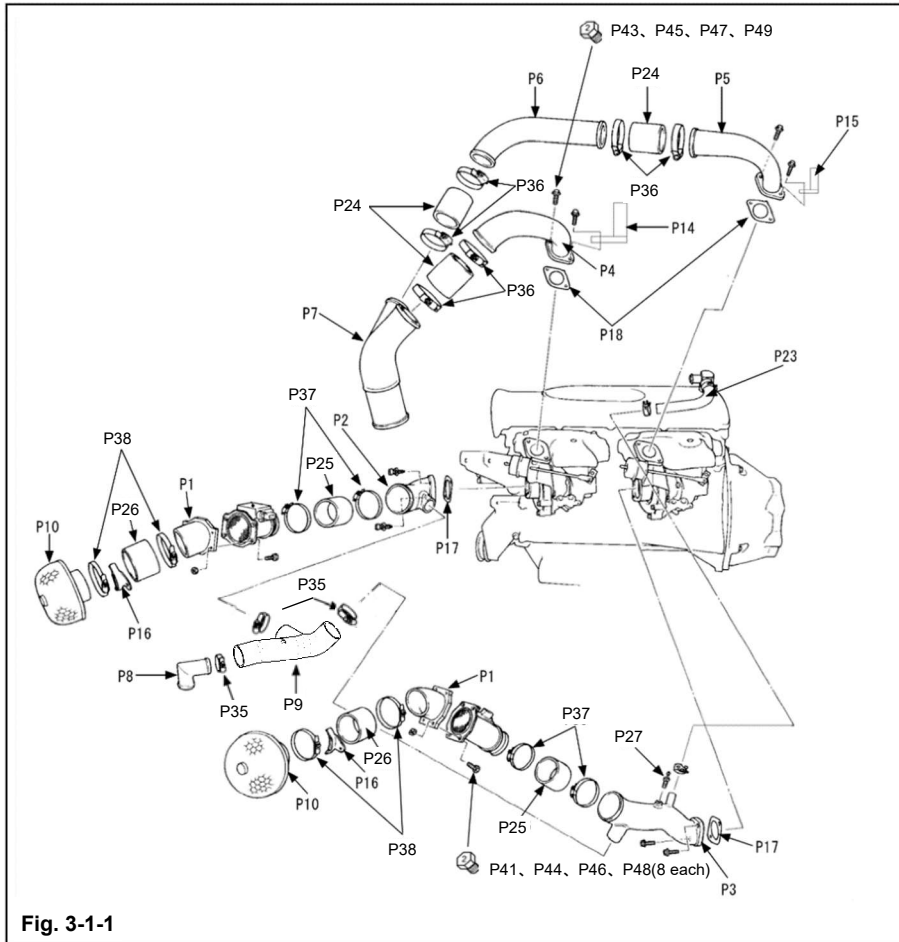

Fig. 3-1-1
(1) Install the hose nipple $\phi 6$ to the rear suction pipe, and then connect the rear suction hose. When installing the hose nipple, wrap commercially available sealing tape around the screw to prevent air leakage. (Fig.3-1-1, Fig.3-1-2)
(2) Connect the rear suction pipe to the rear side turbocharger assembly. (Fig.3-1-1)
- (4) Connect the front suction pipe to the recirculation hose.
- (5) Connect the front suction pipe to the front side turbocharger assembly. (Fig.3-1-1)
- (6) Tighten the hose band that was temporarily connected in 3-1(3).
- (7) Connect recirculation pipe No.4 and recirculation hose to form the recirculation piping. (Fig.3-1-1)
- (1) Connect the rear chamber pipe No.1 to the rear side turbocharger assembly. At this time, be sure to tighten the rear air pipe bracket together. (Fig.3-1-1)
(4) Connect the front chamber pipe to the front side turbocharger assembly. At this time, be sure to tighten the front air pipe bracket together. (Fig.3-1-1, Fig.3-2-2)
(7) Connect the rear chamber pipe No.2 and intercooler inlet pipe. (Fig.3-1-1)
(1) Install the air flow meter adaptor, air cleaner to the air flow meter. (Fig.3-1-1)
(2) Connect the air cleaner installed in 3-3(1) to the front suction pipe and rear suction pipe. (Fig.3-1-1)
(3) Fix the front suction pipe and rear suction pipe.
(Fig.3-1-1, Fig.3-3-1)